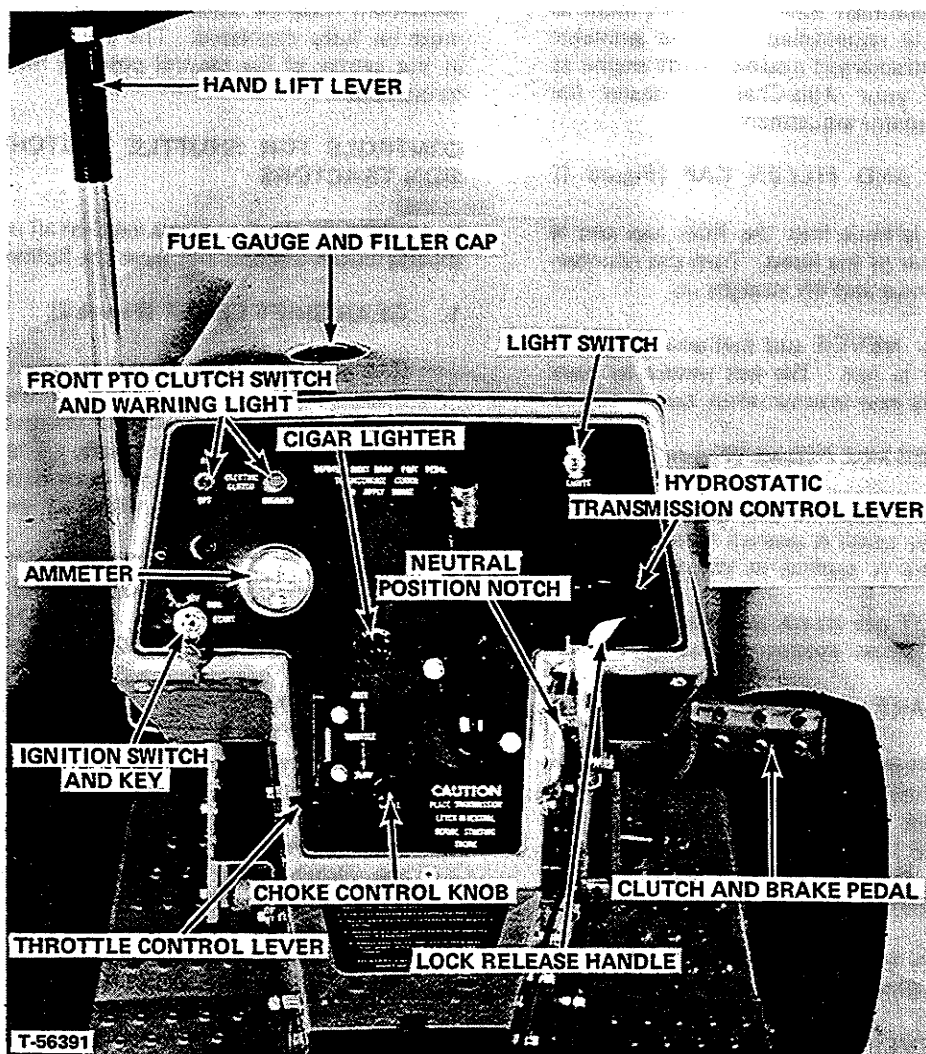

FIGURE 6 - Controls, Hydrostatic Transmission Tractors (Steering Wheel Removed)
2. With foot clutch engaged (up) and hydrostatic transmission control lever against the neutral notch grasp the lever and squeeze the lock release handle toward it. Move lever slowly forward to move tractor forward. To move tractor backward push lever to left to clear the notch and pull lever to rear (Figure 6).